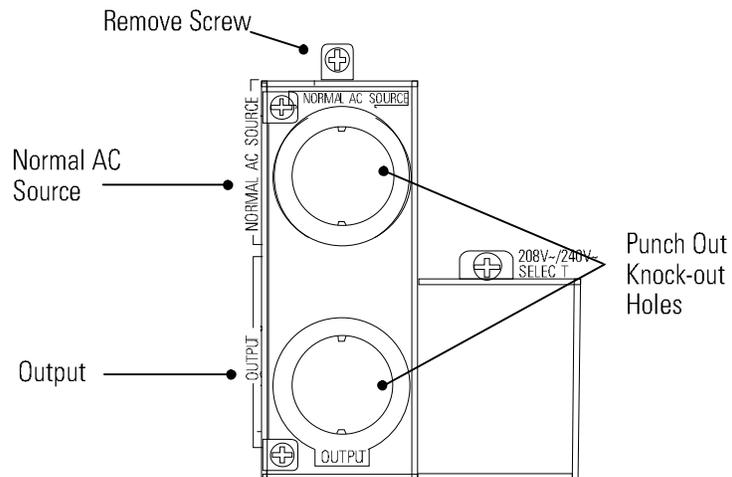

Figure 12. Removing the Terminal Block Cover
3. Use a Phillips-head screwdriver to remove the screw that secures the terminal block cover. Remove the cover. Retain the cover and screw (see Figure 12).